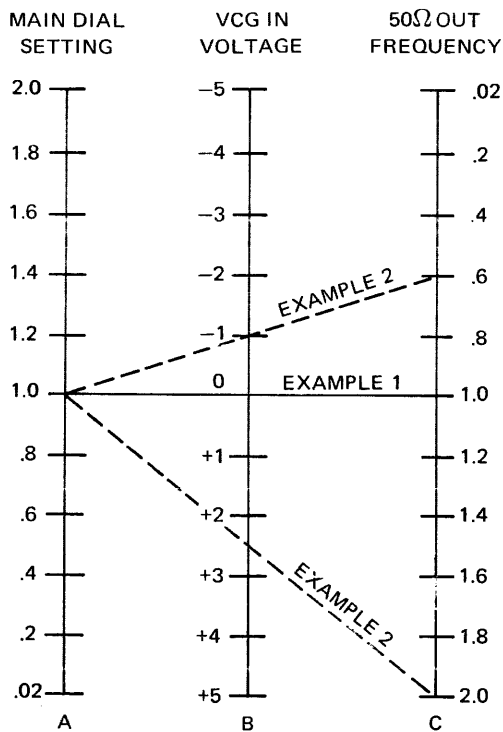

Figure 2-3 - VCG Voltage-to-Frequency Nomograph
8. The nomograph in Figure 2-3 shows the characteristics of the VCG circuit. Column A gives the frequency dial setting; column B, the VCG input voltage; and column C, the approximate resultant dial frequency. Column C must be multiplied by the frequency range multiplier for the actual output frequency.